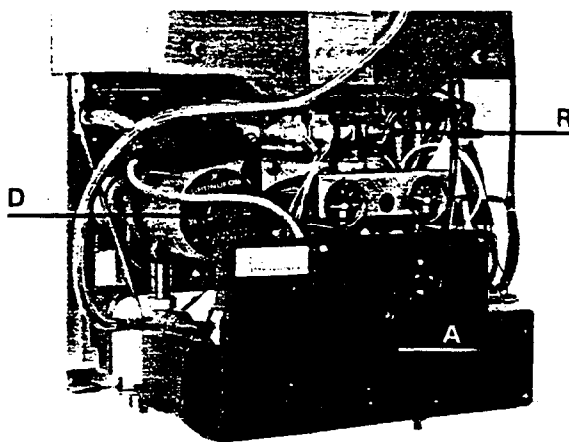
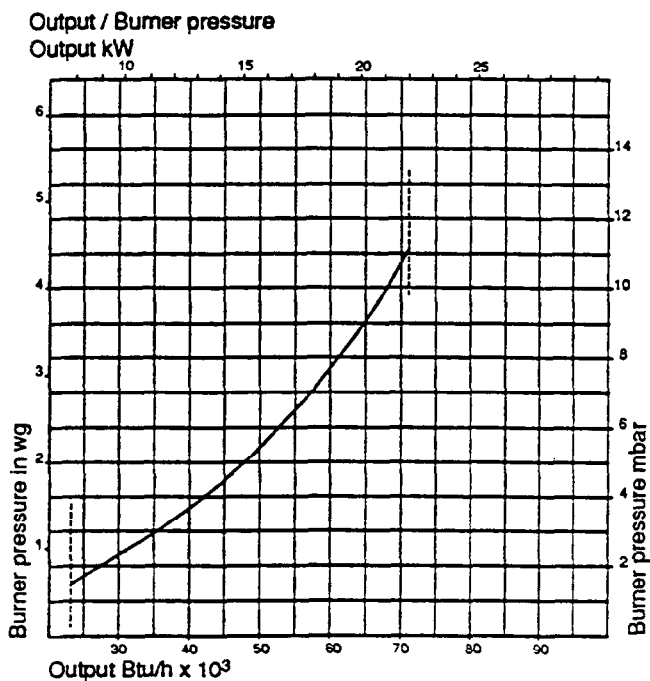

Fig. 35
Fig. 37
- 8) Manually check pump is free to rotate. Remove cap (fig. 35 D).
- Insert small electrical screwdriver (3 mm blade), locate in slot in pump shaft, rotate clockwise to ensure that pump is free replace cap (D).
- 9) Switch to **HOT WATER + CENTRAL HEATING** on selector switch (A) (fig. 35) switch position (II).
- 11) Isolate water supply and drain boiler by disconnecting fill system and opening the drain valve (F). This is incorporated in the safety valve and is achieved by screwing down the head until the valve lifts. Open all low level drain cocks.
- 12) Remove filter in the return isolating valve (C) and inspect for any installation debris (see section 7.5), to clean and replace.
- 1) Switch boiler to the off (O) central position, see section 6.3 (fig. 35).
- 2) Remove the pressure test point screw - (B) and connect a suitable pressure gauge.
- 3) Remove the hexagonal cap from gas rate adjuster exposing the adjusting screw (C).
- 4) Switch the boiler to hot water and central heating (II) and check that any fitted external controls are calling for heat.
- 5) Adjust. Setting pressures are given in graph figs. 37 and 38. The pressure will be reduced by clockwise movement of screw, increased by anticlockwise movement. Now select hot water only, adjust hot water regulator, see fig. 4 (20), to minimum and open the largest volume draw-off tap. The gas pressure should now be the maximum as indicated in Technical Data.
- 6) Switch boiler off (O). Remove pressure gauge and replace test point screw and gas rate adjuster hexagon cap. Check for gas soundness around screw.